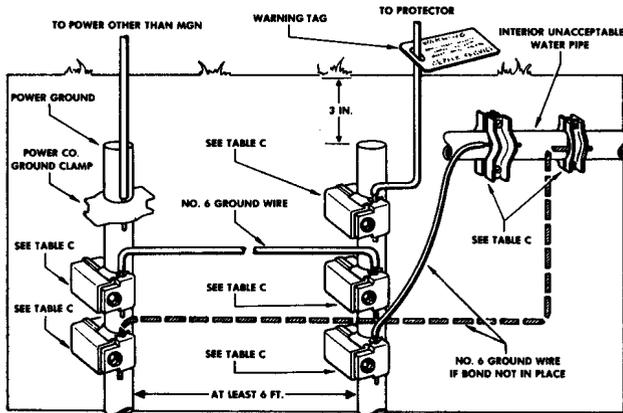

FIGURE 11. Power Other than MGN Grounded to Ground Rod—Unacceptable Interior Water Pipe
b. If the power service and the telephone protector are connected to separate ground rods, bond the two rods together as shown in Figures 11 and 12.
- b. If a power rod is available, one telephone ground rod is sufficient. Bond all protectors together and bond the telephone ground rod to the power ground rod, as shown in Figure 11.